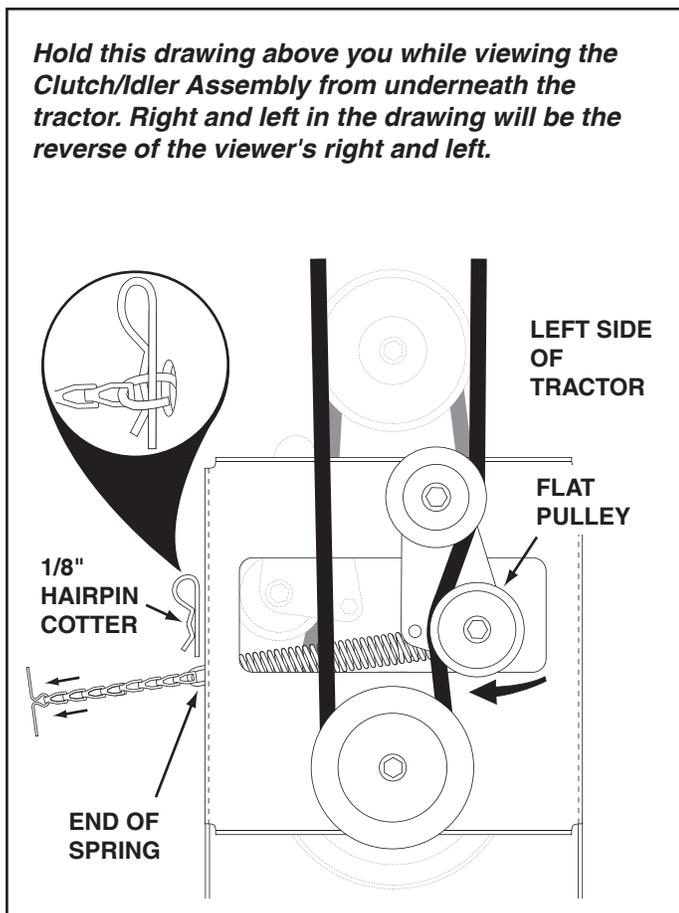

FIGURE 32
12. Pull the tensioning chain until the end of the spring is pulled through the hole in the side of the Clutch/Idler assembly. Install the 1/8" hairpin cotter through the end of the spring, securing it on the outside of the Clutch/Idler assembly. See figure 32.